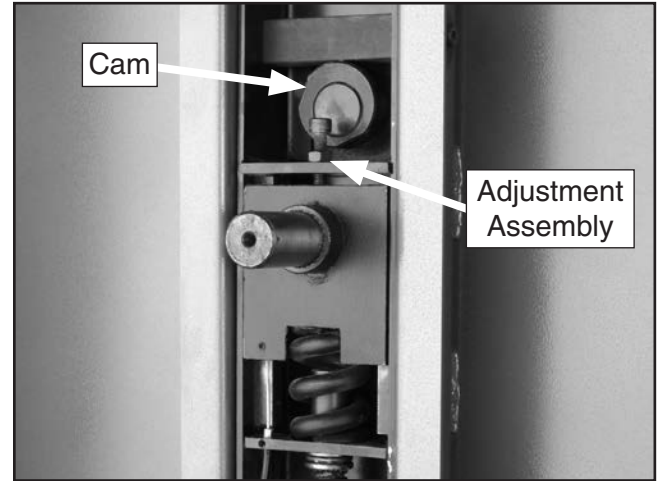

Figure 100. Example of tension adjustment assembly locations (top wheel removed for clarity).
- Apply a thin coat of lubricant to the tension adjustment assembly and tension lever cam (see **Figure 100**).